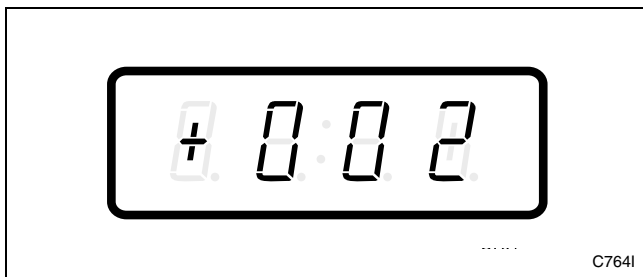

Figure 12
3. Press the LOW TEMP (+) or the NO HEAT (-) keypad to scroll through the programmable options until “+002” appears in the VFD. Refer to *Figure 12*.